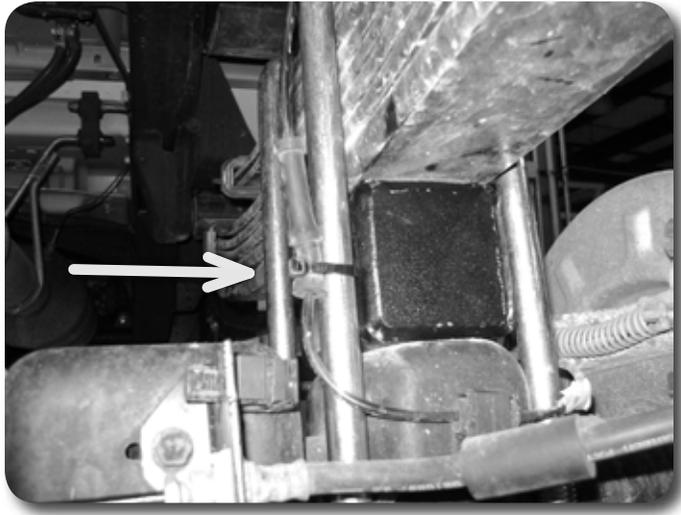

Figure 7
12. With both sides complete, secure the ABS wire to the inside u-bolt with the provided zip ties. **Figure 7**